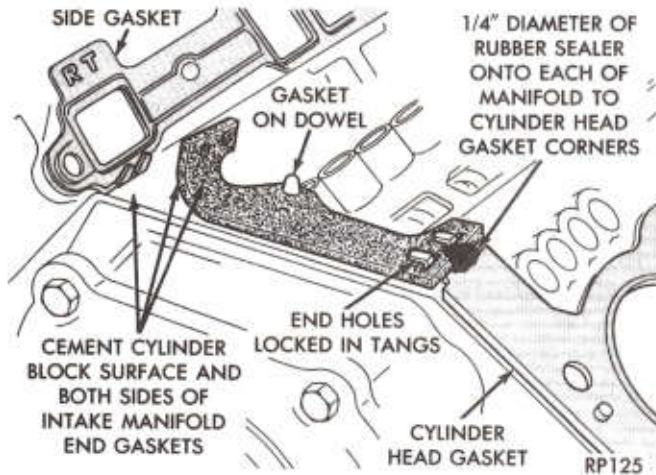

Fig. 11—Intake Manifold Sealing
(8) Coat intake manifold side gaskets lightly with sealer. Part Number 4318035, or equivalent.
(9) Install side gaskets to cylinder head.
(10) Clean cylinder block front and rear gasket surfaces using a suitable solvent (Fig. 11).
(11) Apply a thin, uniform coating of a quick dry cement to the intake manifold front and rear gaskets and cylinder block gasket surface.
When installing gaskets, the center hole in the gasket MUST engage dowels in block. End holes in seals MUST be locked into tangs of head gasket. (Fig. 11).